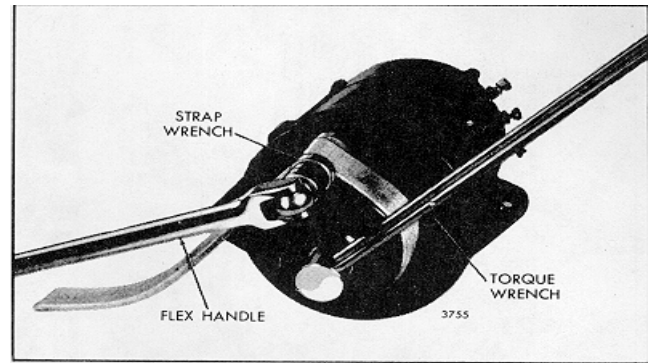

Fig. 5 - Tightening Generator Pulley Retaining Nut
1. Install the generator drive pulley, if it was removed. Tighten the pulley retaining nut to 50-60 lb-ft torque (Fig. 5)